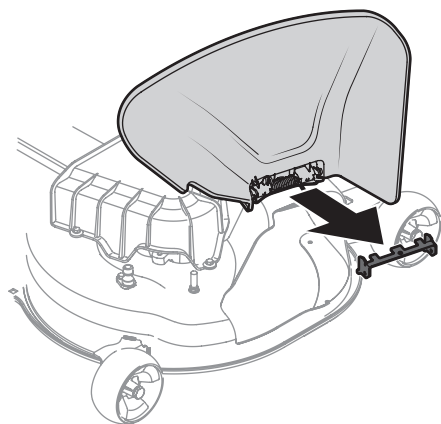

Figure 12
2. Lower the chute deflector and discard the shipping brace. See Figure 12.